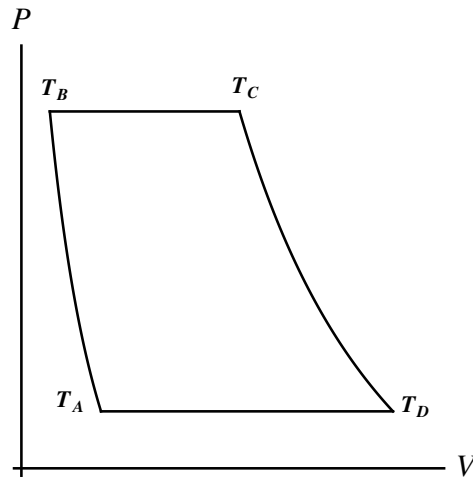

FIGURE 1. A PV diagram for the Brayton cycle.
- a) See Figure 1 for the PV diagram corresponding to this turbine. The heat transfers along the adiabatic legs a-b and c-d are both zero because no heat is transferred, $Q_{A-B} = Q_{C-D} = 0$. Along the isobaric legs, the heat transfer is given by $Q = nC_p\Delta T = n(C_V + R)\Delta T$. Along the leg B-C the heat transfer into the gas is positive